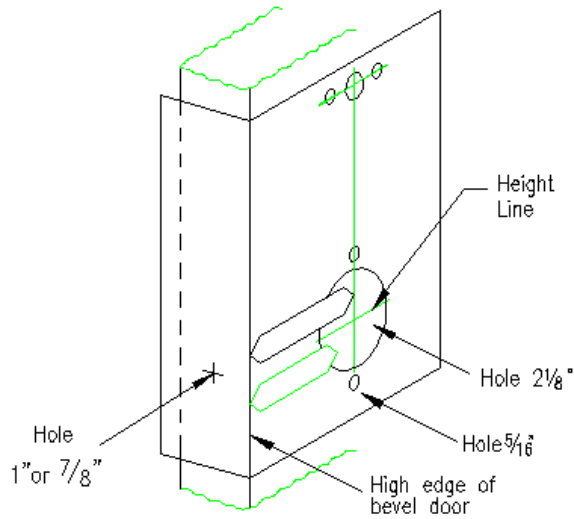

Figure 1 Positioning the Template
- Fold the template on the dashed line and carefully place it in position on the high side of the door bevel as shown in Figure 1. Looking through the hole from the opposite side of the door, align the template so that you see the template outline of the 2 1/8" diameter chassis hole.